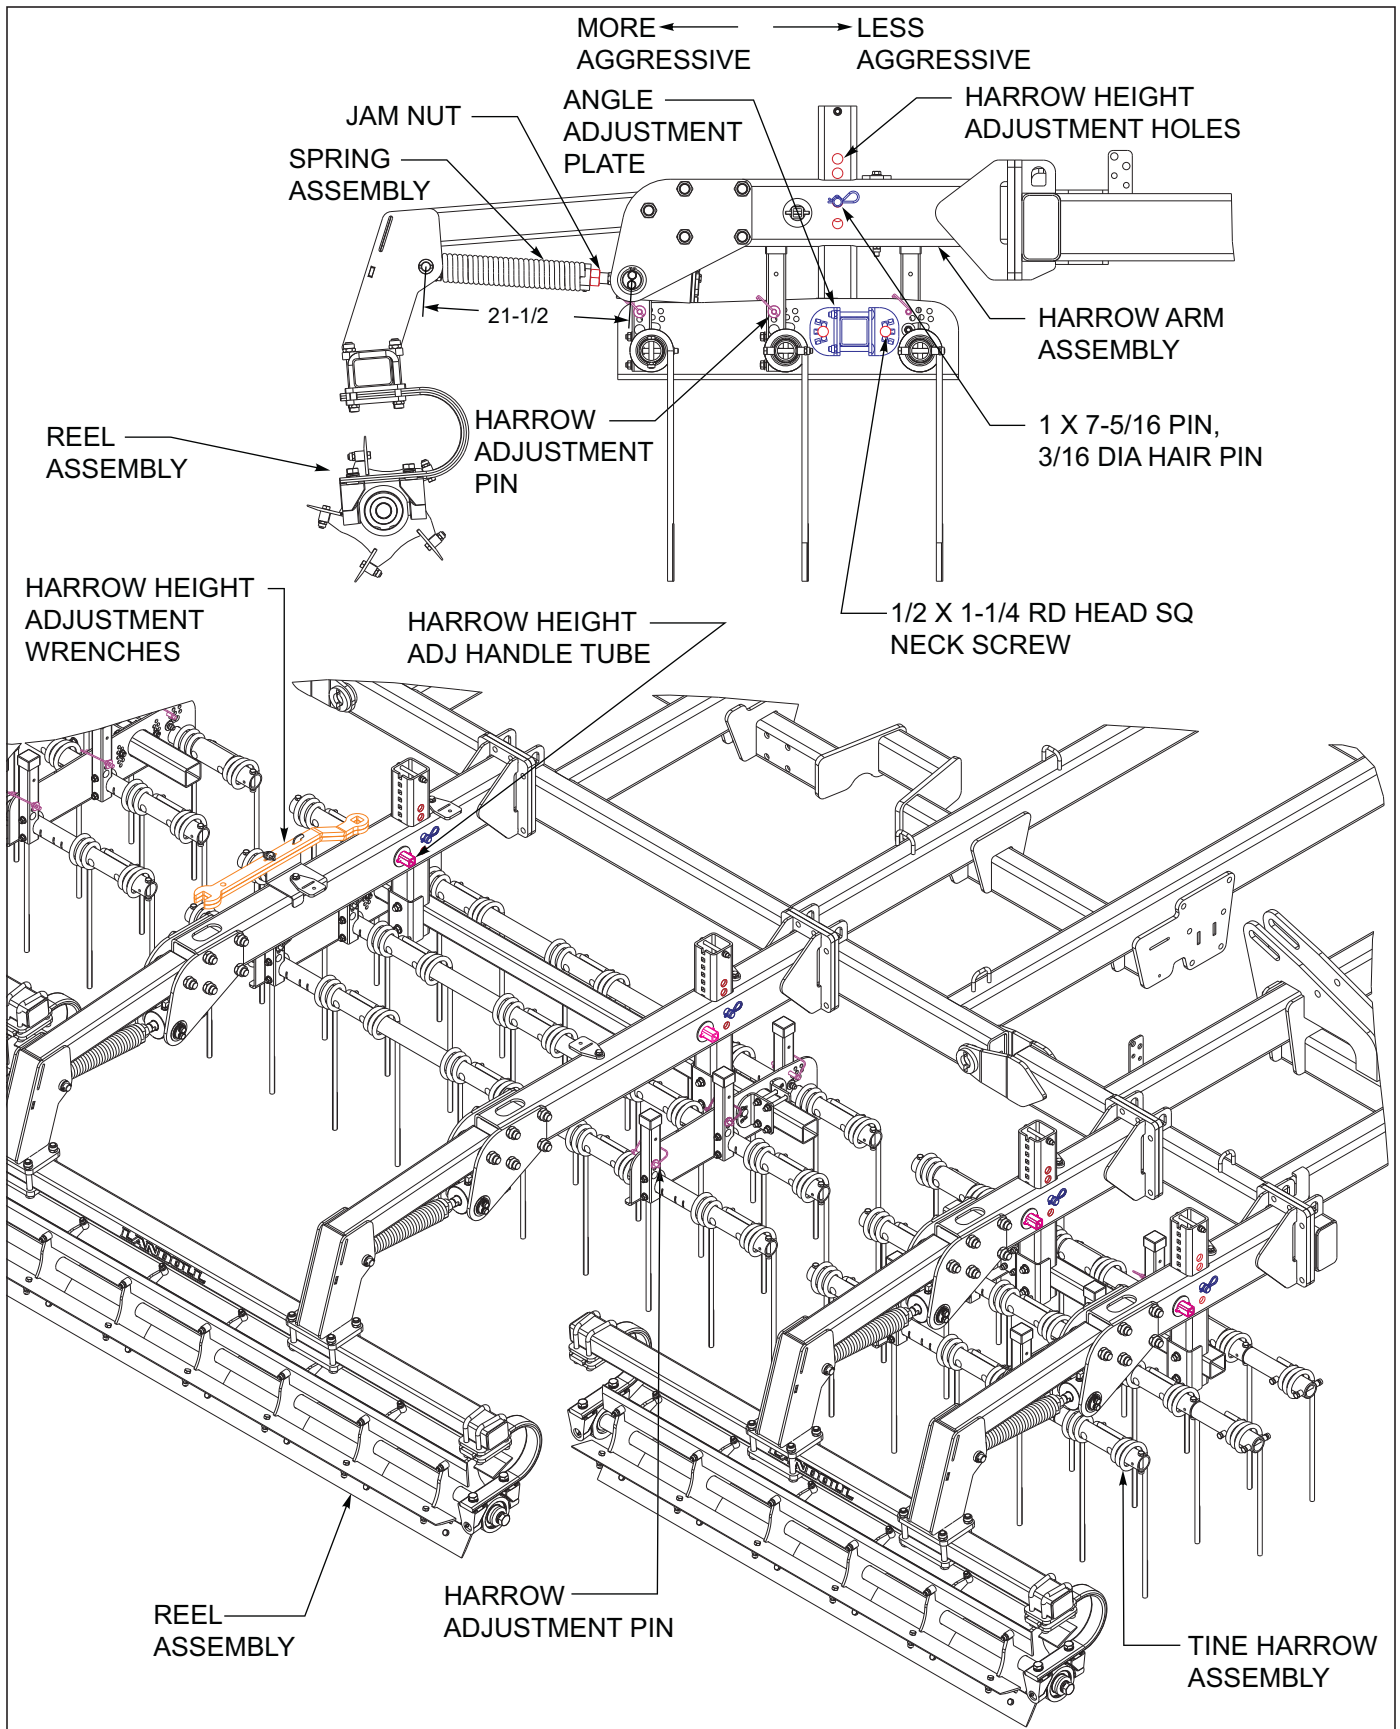

Figure 4-16: 3BCT-Chopper Reel Adjustments
3. The coil tine harrow should run level with the coulter chisel frame. If this needs adjusted, remove the 1/2 x 1-1/4 rd head sq neck screws and rotate tine assembly to level, re-install screws and nuts. When operating the coil tine harrow, a more vertical tine tooth angle will make the harrow more aggressive. A lower/flatter tine angle will make the harrow less aggressive but will handle more residue and wetter conditions. To change the tine angle, raise the harrow off the ground. Remove the harrow pin from both angle adjustment tubes per tine gang bar tube See Figures 4-16. Rotate the angle adjustment tubes forward (less aggressive) or rearward (more aggressive) and reinstall both spring clip pins. Repeat the tine adjustment for each tine gang bar tube and harrow section. Each row can be adjusted as needed, all threerows do not need to be set at the same tine angle.
6. Reels are set to 21-1/2" from Landoll. To adjust the standard reel height, loosen the locking hex nut against the threaded spring end See Figure 4-16. The hydraulic reel can be raised as needed to prevent plugging.